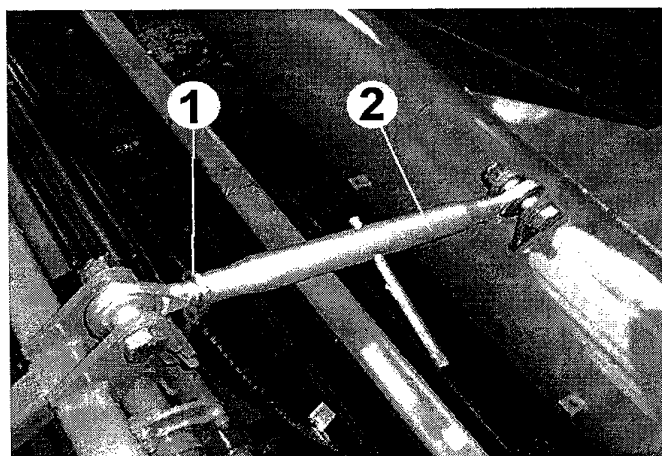

Fig 5
To adjust the angle of the web, loosen the lock tab (item 1, fig 5) and turn the adjuster sleeve (item 2, fig 5) using the tommy bar. The speed, angle and pitch of the web are all important to achieve optimum separation. The speed and angle should be adjusted to allow the web to work efficiently. Too faster speed or too shallower angle could result in too much soil being thrown over the vertical rear web, conversely the speed being too slow and too steeper angle will cause minimal separation.